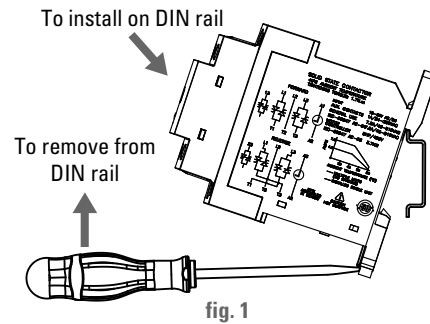

fig. 1
**DRC3P CONTACTOR (16)**
**DRC3R REVERSING CONTACTOR (17)**
- Install the contactor on the DIN rail (as shown in **fig.1**).